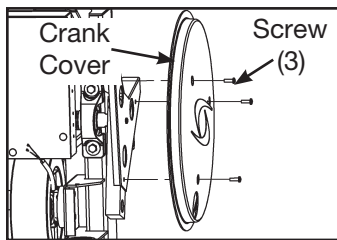

Figure 5
- A.** Using a Phillips screwdriver, remove the three screws securing each crank cover (and remove the crank covers). See Figure 5.
- B. Using a Phillips head screwdriver, attach the three screws securing each crank cover in place. See Figure 5.